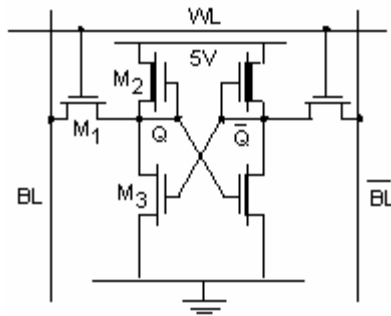

Figure 12.85 6T SRAM cell with NMOS depletion loads.
4. [M, None, 12.2.3] Consider the six-transistor NMOS static memory cell of Figure 12.85. You may ignore the body effect for this problem ($\gamma = 0$). Use $(W/L)_2 = 1.2/24$ and $(W/L)_3 = 2.4/1.2$. The threshold voltage V_{TO} of the depletion transistors equals -2 V . Assume $V_{dsat} > V_{dd}$ (long channel device).